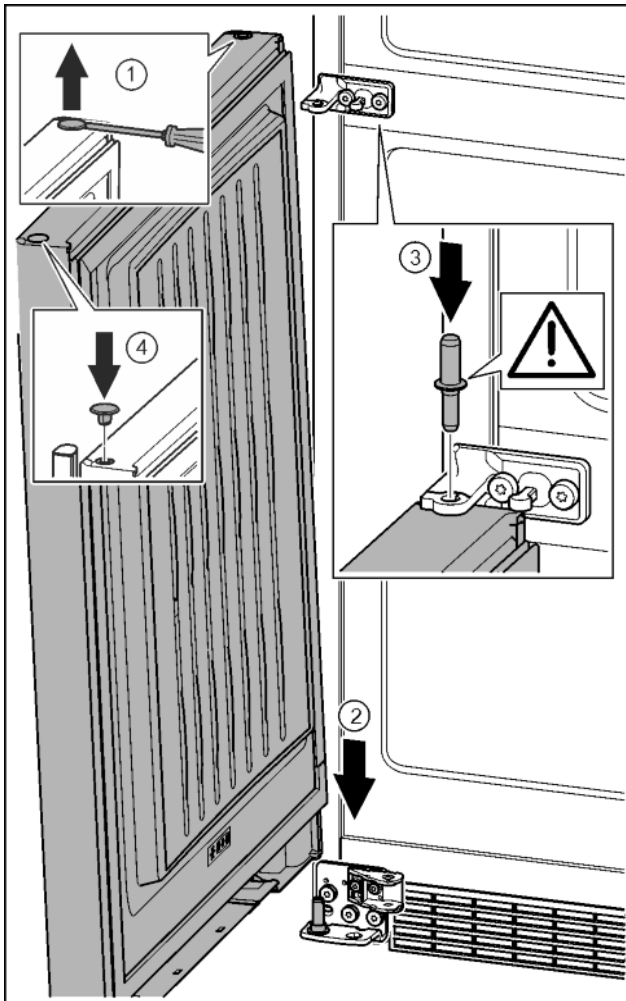

Fig. 34
- ▶ Carefully lift up the plugs with a slotted screwdriver and remove them. Fig. 34 (1)
- ▶ Position the door from above onto the lower bearing pins. Fig. 34 (2)
- ▶ Insert the centre bearing pin through the centre bearing bracket into the lower door. Make sure that the catch mechanism is pointing to the rear. Fig. 34 (3)
- ▶ Insert the plugs again on the other side of the door. Fig. 34 (4)